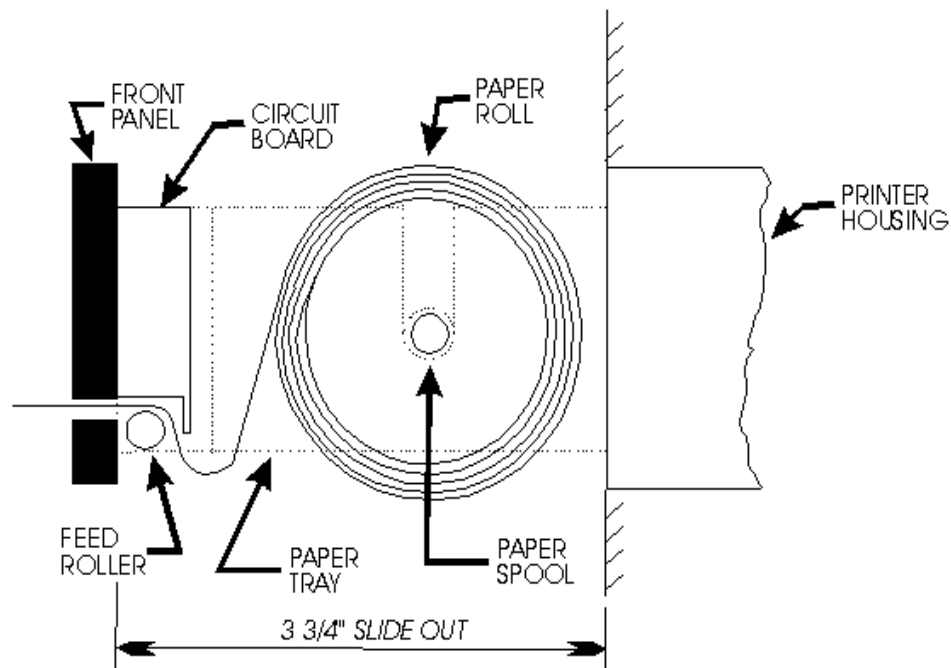

FIGURE 4.2-1 PAPER LOADING (Optional Keltron Printer)
4. Insert a new roll of paper on the paper holder shaft and guide the edge of the paper into the printer mechanism paper input. Exposed circuit components do not contain perceptible voltages, but use care to avoid damaging delicate electronic components. Thread paper as shown in Figure 4.2-1 with the paper coming off the top of the roll rather than the bottom of the roll. The Thermal Printer has an autofeed feature—simply line the paper up in the slot and the printer mechanism will grab and pull it through to the front.